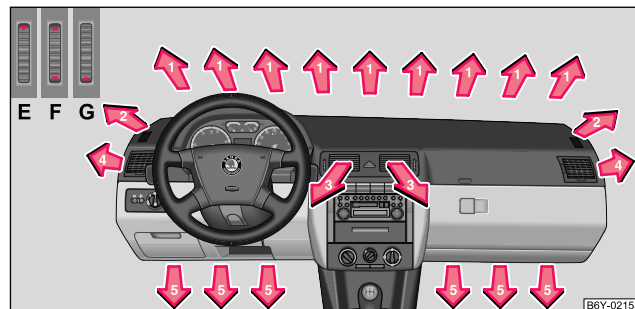

Fig. 79 Air outlet vents
- Open air outlet vents **4** ⇒ page 89, fig. 79 and point towards the side window.
- Open air outlet vents **3** and **4** ⇒ page 89, fig. 79
- **Air outlet vent fully open** - knurled wheel vertically in position **F** ⇒ fig. 79